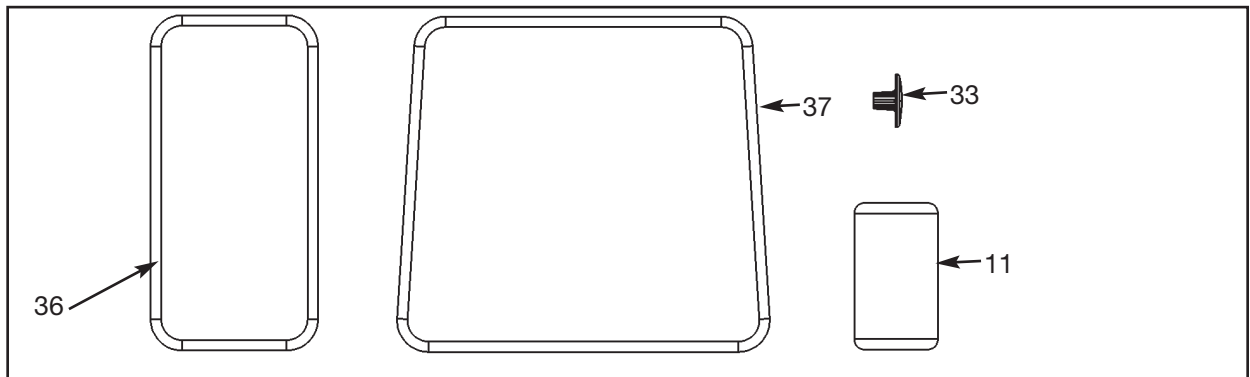

Figure 20
10. Install the back and seat cushions (see steps 10A - 10I and Figures 20 - 21).
- A.** Locate the cushion box and verify the contents as shown in Figure 20.